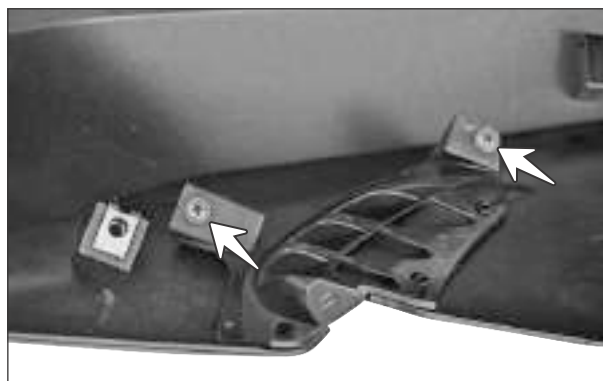

Fig. 2.19
- Remove the CRR flanged pan head tap screw (ST4.2x13 - 2 nos.) from the mounting of grill cover fuel tank R. (Fig. 2.19)